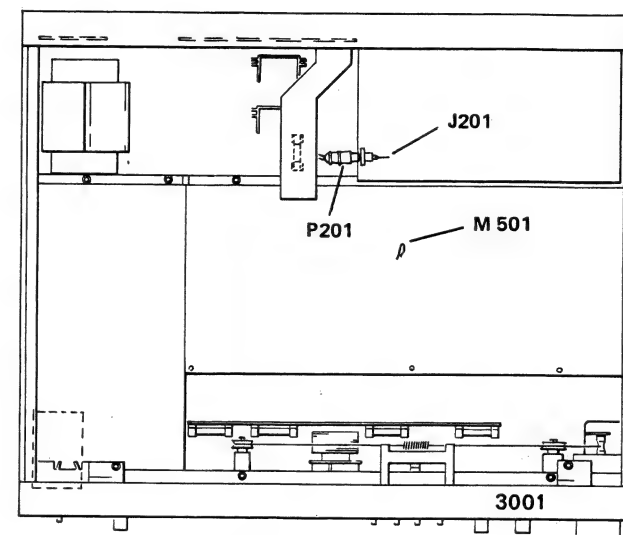

Figure 25 Test points
- Pull out signal plug P201 on the selectivity box (see figure 25).
- Connect signal generator to J201 (see figure 25).
- Connect an oscilloscope (a.c.-mode, 5 mV) to M501 on the decoder board (see figure 25).
- Put back the signal plug P201 on the selectivity box (see figure 25).